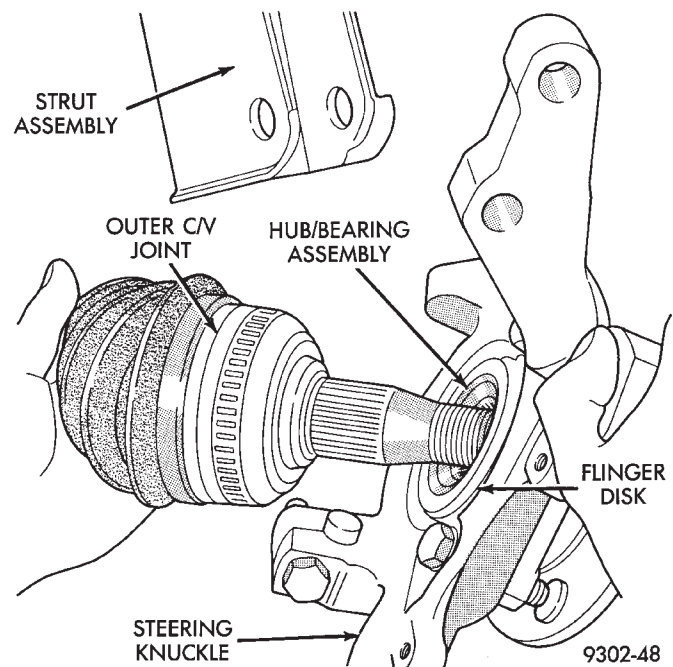

Fig. 7 Outer C/V Joint Removal From Hub and Bearing
CAUTION: When removing outer C/V joint from hub and bearing assembly, do not allow the flinger disk (Fig. 7) on hub and bearing assembly to become damaged. Damage to the flinger disk will cause dirt and water intrusion into bearing and premature bearing failure.
(10) Hold outer C/V joint assembly with one hand. Grasp steering knuckle with other and rotate it out and to the rear of the vehicle, until outer C/V joint clears hub and bearing assembly (Fig. 7).